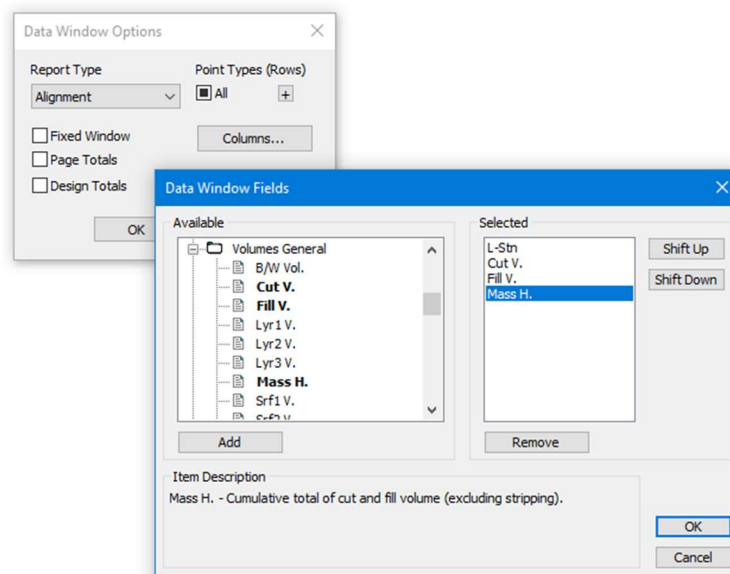

Figure 8-8: Adding Mass Haul Information to Data Window
- Add **Cut V.**, **Fill V.**, and **Mass H.** from the *Volumes* folder as seen in Figure 8-8 below.